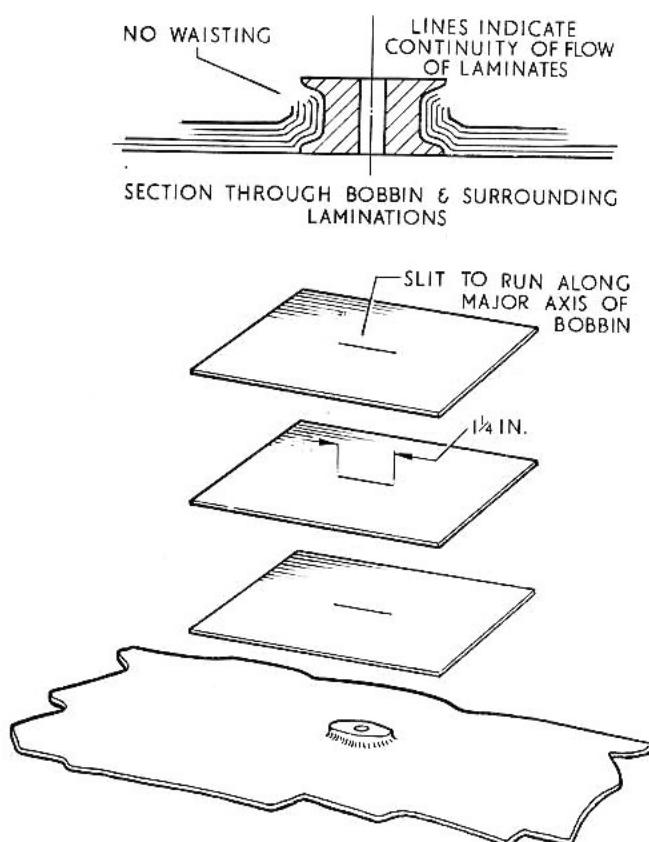

Fig. 21
This could be caused either by faulty layup (see Fig. 21) or by overloading, e.g. accident damage. Where the bobbin and its surrounding area is accessible from the
Fig. 21 shows a typical oval ended bobbin and indicates graphically the requirements for a well laminated bobbin. Firstly the laminates from the basic mounting surface must overlap and interleave with the laminates around the bobbins. Secondly the laminate must be well built up under the bobbin to prevent the bobbin from pulling out in a downwards direction. This surrounding laminate should in itself comprise a tight ring around the bobbin to prevent it from bursting out under diagonal loads but if in doubt one or two layers of tape or cloth should be wound round the waist of the bobbin. Finally plasticine or similar plugs should be used during laminating to keep the resin out of the bobbin threads.
When properly laid as shown in Fig. 21 the visible rough side wall will be nearly vertical in line with the bobbin top profile. In effect a strong reinforcing ring of laminate surrounds the bobbin and this ring must be properly connected to the basic laminate.
- It is important that build up around bobbins is as shown in Fig. 21 bobbins by nature of their